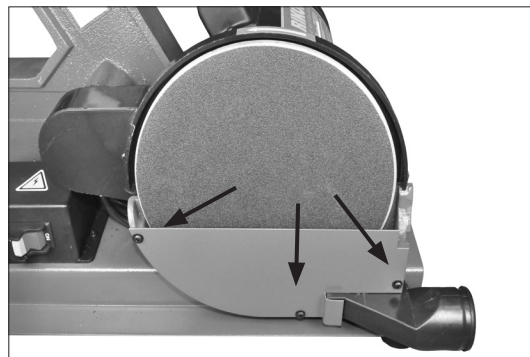

FIG. 9
20. Attach the metal, lower Disc Safety Plate (#31) to the sanding disc base with the three M4 Phillips head Screws (#14). FIG. 9.